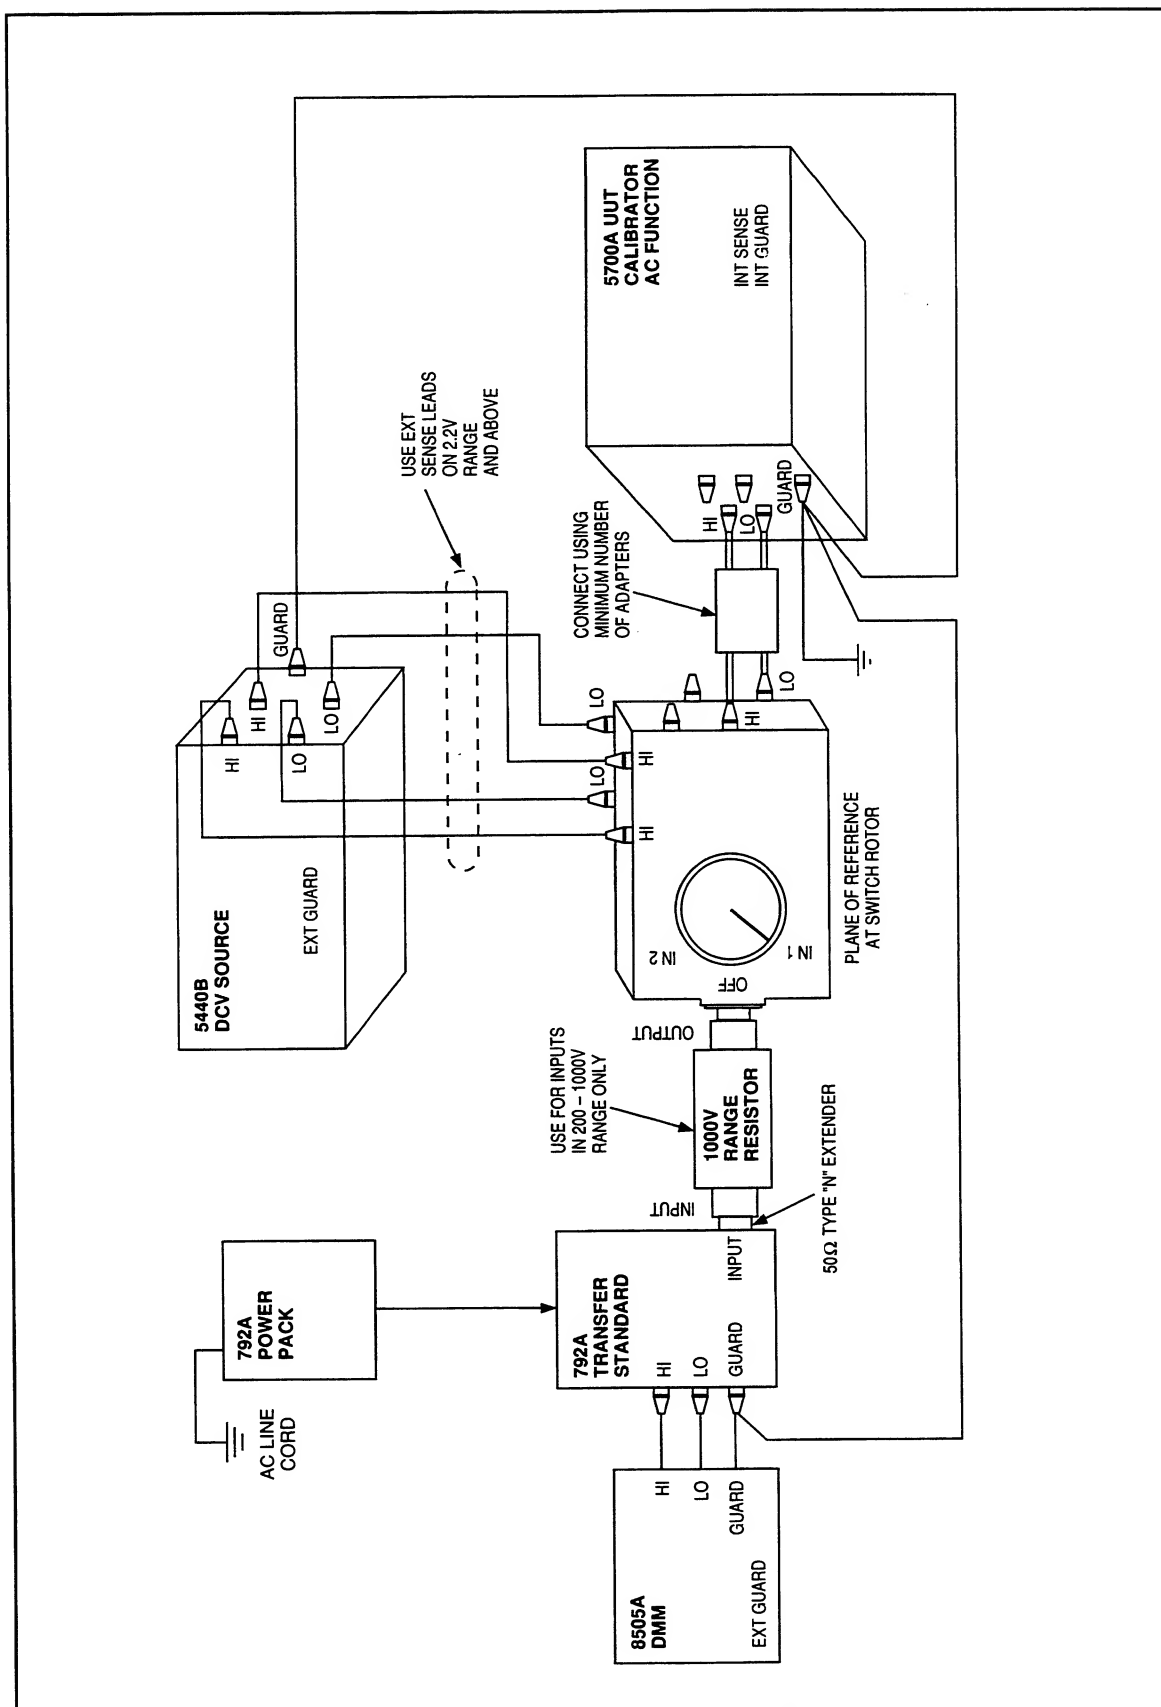

Figure 3-8. Calibrating an AC Voltage Source
- a. Connect the ac and dc sources, the DMM, and the transfer switch to the transfer standard as shown in Figure 3-8. Verify that all instruments have satisfied their warmup requirements. (For the transfer standard, the warmup requirement is 15 minutes.) Use the 1000V range resistor and the 2.2V INPUT RANGE setting if the transfer voltage is between 200V and 1000V.